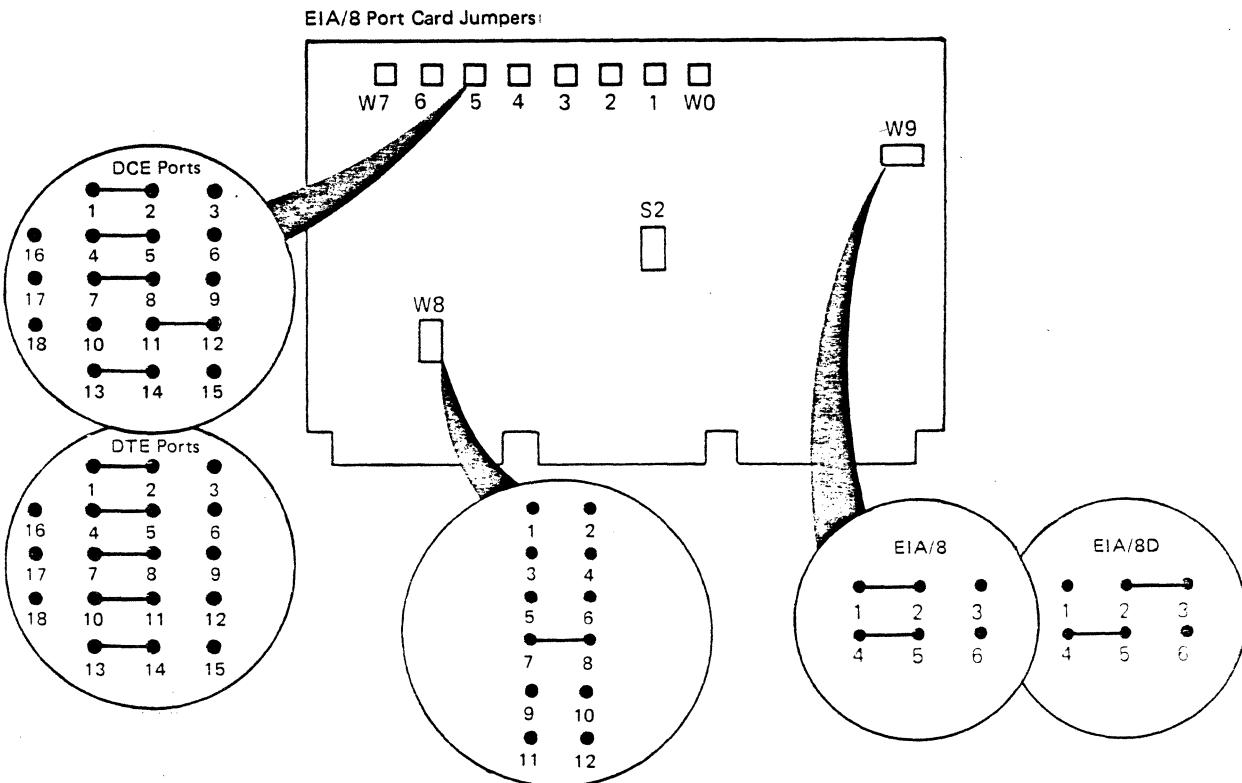

Figure 9-1. EIA/8 Port Card Default Jumpering Shown
The EIA/8 port card features jumpering options. Figure 9-1 details the relationship between the jumper area and the port it controls, and illustrates the jumper area locations.
2. Refer to jumper area W8 (Figures 9-1 and 9-2).
2. Jumper areas W0 through W7 are factory-jumpered as shown in Figure 9-1.
Jumper area locations and the port controlled by the jumper area are detailed in Figures 9-1 and 9-2.